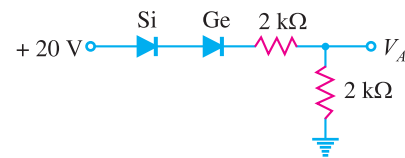

**Fig. 6.73**
2. Using equivalent circuit, determine the current in the circuit shown in Fig. 6.73. Assume the forward resistance of the diode to be  $2\ \Omega$ . [358 mA]